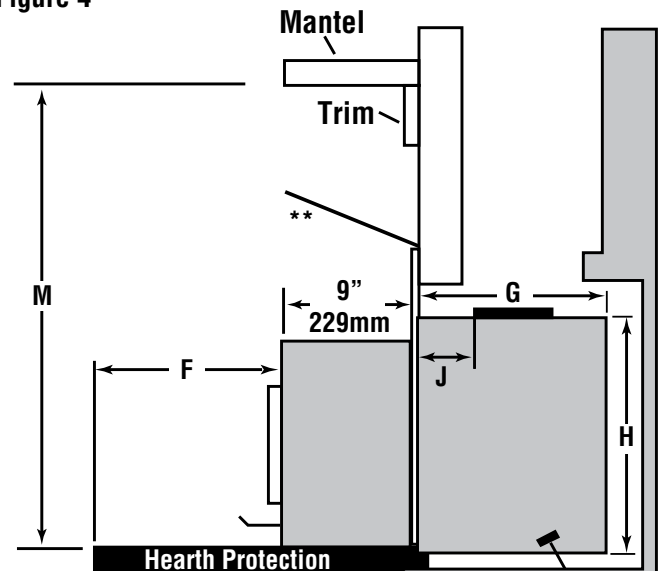

Figure 5
2. Next install bricks #27-38 on top of the stainless steel secondary burn tubes (Figures 2 & 3) in the upper part of the firebox. Bricks #27-32 fit up against the back wall of the firebox and rest on top of bricks #24-26 and the rear tube. The steel support hanger should be centered between the sets of baffle bricks as shown in Figures 5 and 6.